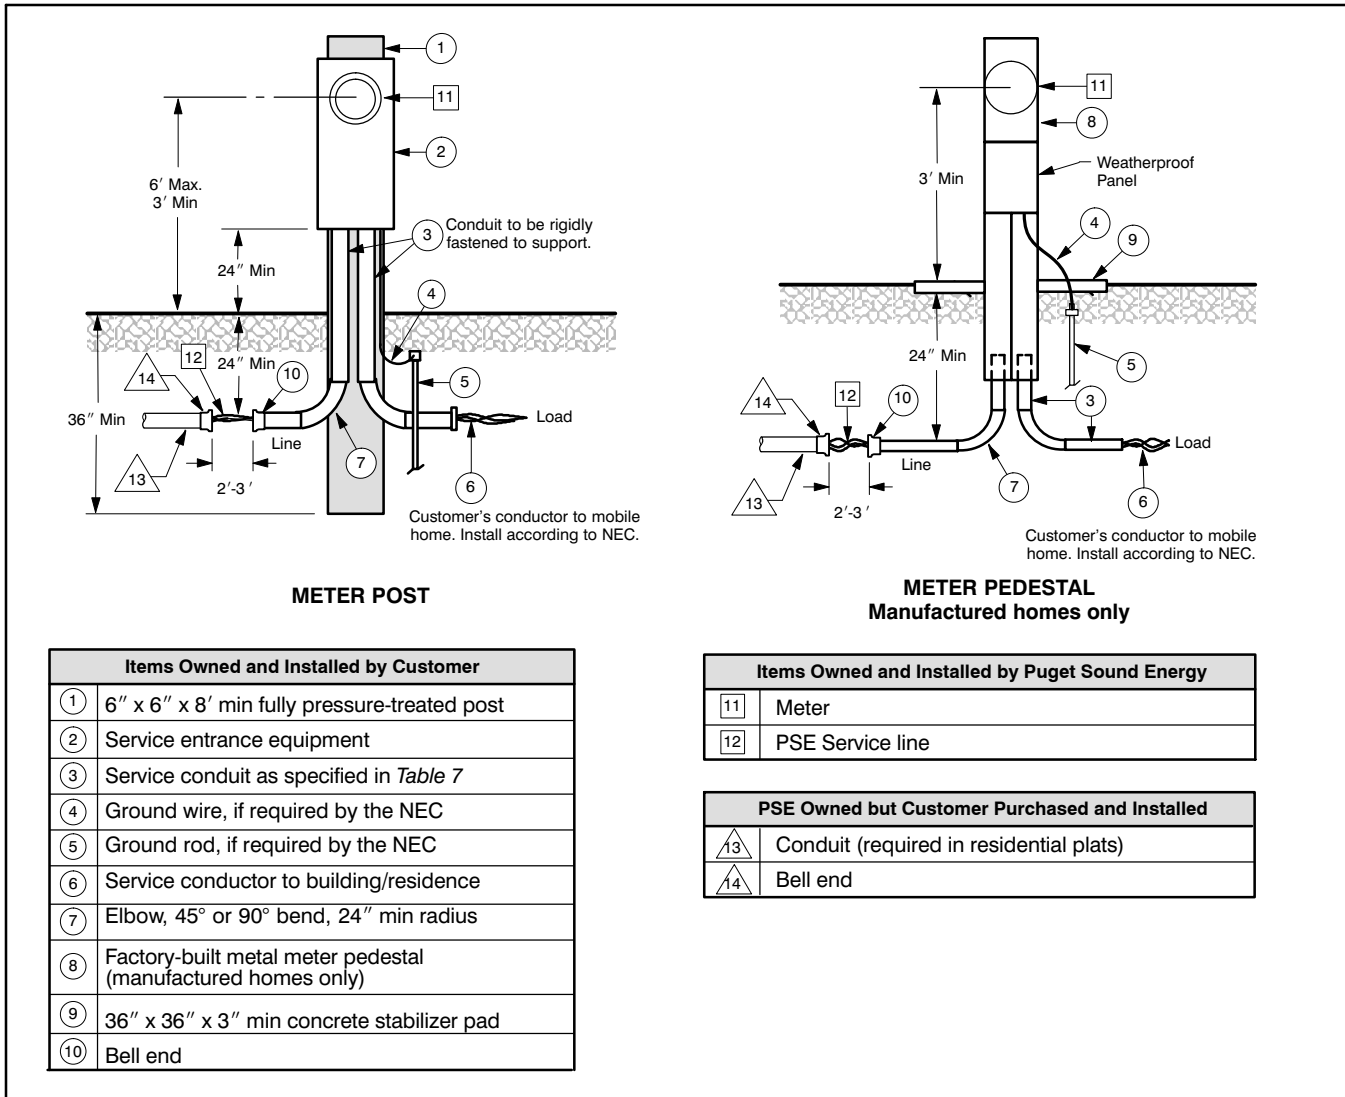

Figure 12 Permanent underground service for manufactured homes, 0–200 A
- On a customer-owned pedestal or meter post (see *Figure 12*).